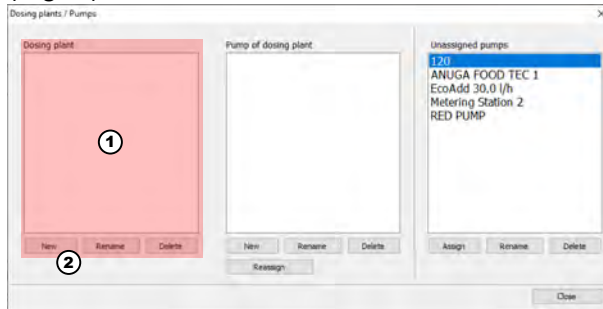

Fig. 7: Create dosing plant
⇒ The window closes and the window for creating 'dosing plants and pumps' opens (Fig. 7).
2. First, create a 'Dosing plant' (Fig. 7, item 1). To do this, choose the [New] (Fig. 7, item 2) button.